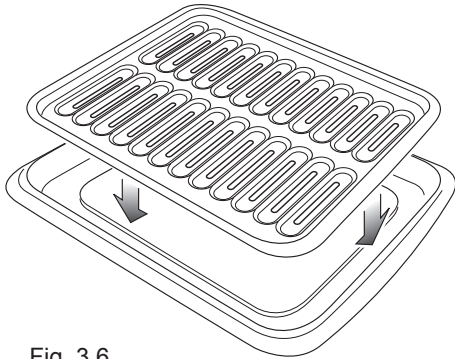

Fig. 3.6
- Introduce the broiler pan (fig. 3.6) in the oven. The broiler pan should be placed above the shelf and it should be centered with the broil burner (fig. 3.5).